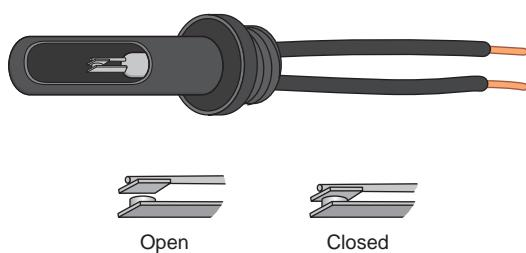

FIGURE 7-4 One type of recessed luminaire thermal protector. (*Delmar/Cengage Learning*)
When a Type Non-IC recessed luminaire gets overheated because of overlamping, mislamping, or being too close to thermal insulation, the thermal protector (Figure 7-4) trips off. When the luminaire cools down, it comes on again. This on-off cycling will repeat until the problem is corrected. These luminaires are marked “Blinking Light of
To protect against the hazards of overheating, UL and the *NEC* in 410.115(C) require that recessed luminaires be equipped with an integral thermal protector, as in Figure 7-4. These devices will cycle on and off repeatedly until the heat problem has been resolved. There are two exceptions to this requirement. Thermal protection is not required for recessed incandescent luminaires designed for installation directly in a concrete pour, or for recessed incandescent luminaires that are constructed so as to not exceed “temperature performance characteristics” equivalent to thermally protected luminaires. These luminaires are so identified.